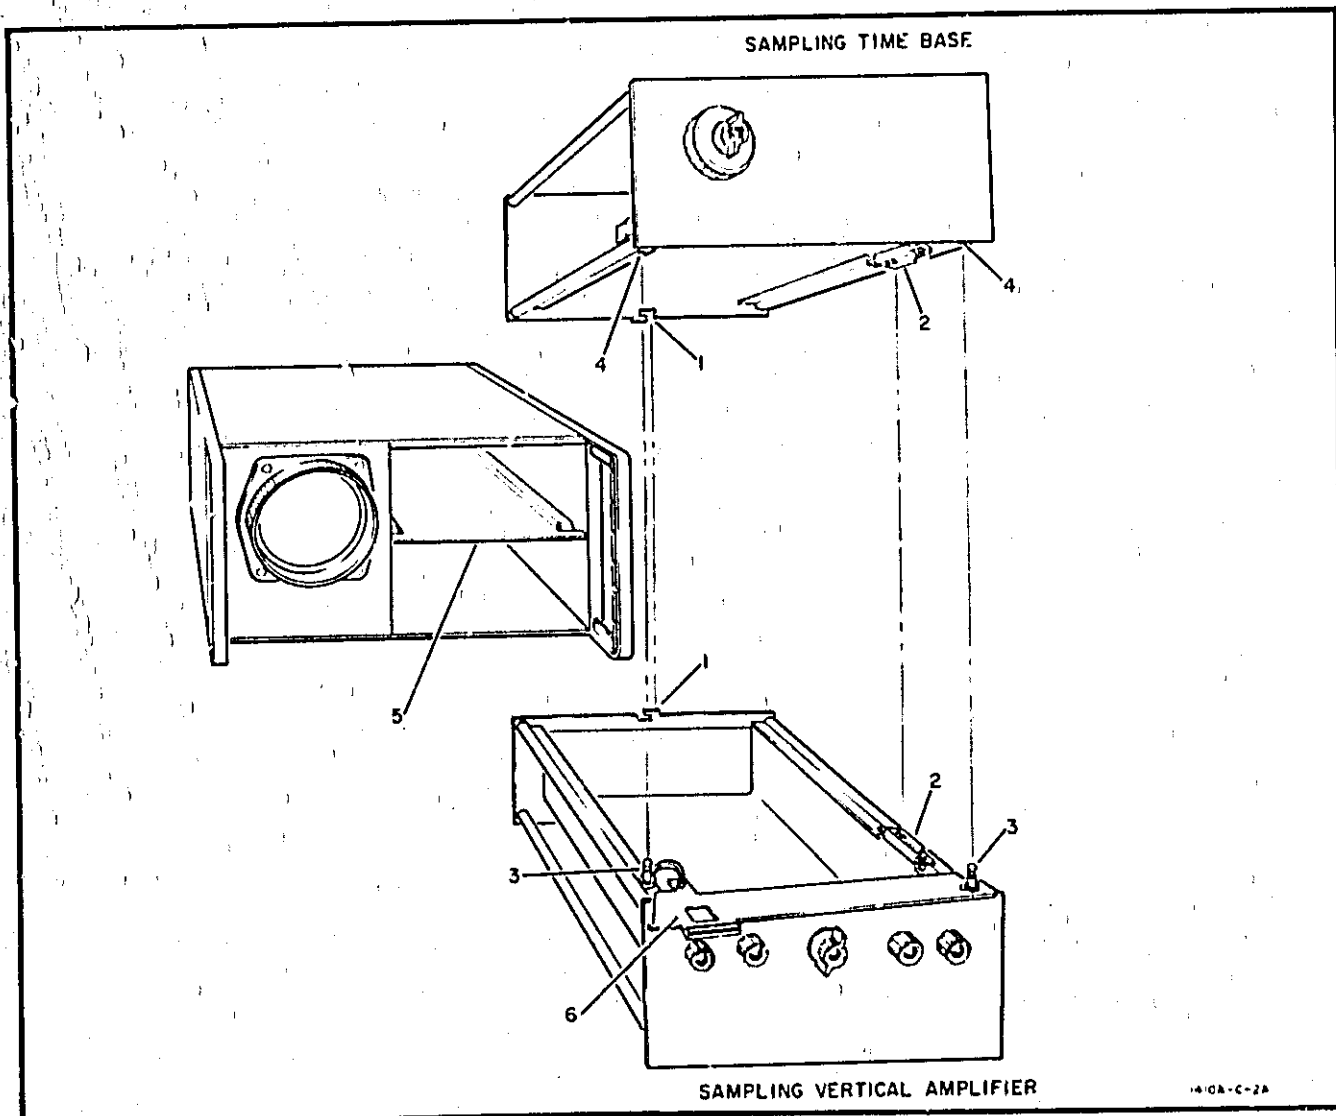

Figure 2-1. Procedure for locking plug-ins together
Paragraphs 1-12 to 1-15 & Figure 2-1.
2-5. The Model 1410A Sampling Vertical Amplifier must first be locked to the sampling time base unit. To fasten the two units together place the time base unit above the Model 1410A and with a slight twisting action fasten the two rear interlocks together (see Figure 2-1, item 1). Press the time base down, being careful to properly align the jack and plug (item 2). The two guide pins at the front of the Model 1410A (item 3) should mate with their respective guide holes in the time base (item 4) and snap together.